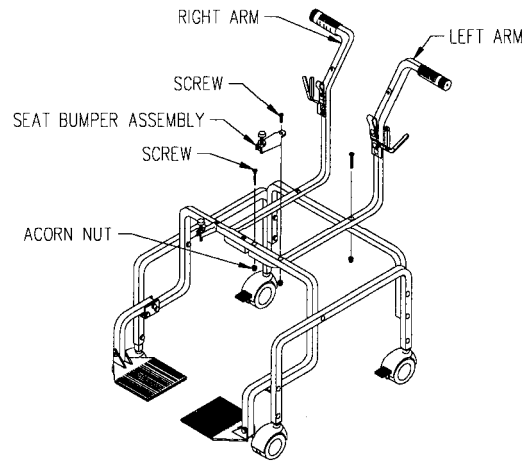

Fig. 12
40. Attach the seat bumper assemblies with screws and acorn nut as shown in Figure 12 and tighten securely.